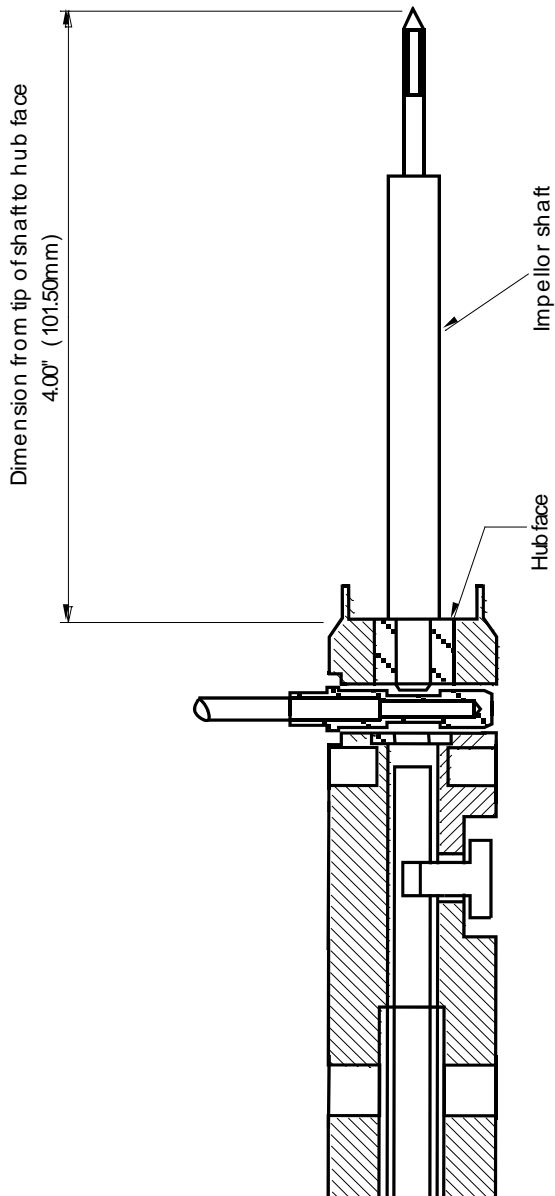

Figure 4 – BFM002 impeller shaft setting
7.4 FIGURE 4 - BFM002 IMPELLER SHAFT SETTING